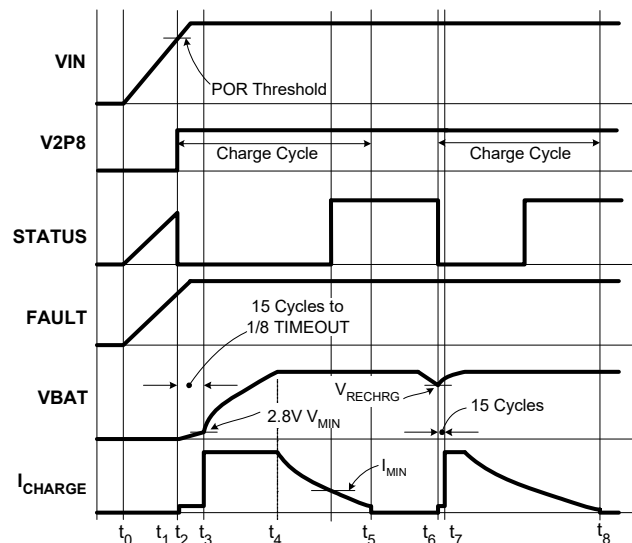

FIGURE 21. OPERATION WAVEFORMS
Figure 21 illustrates the typical signal waveforms for the linear charger from the power-up to a recharge cycle. More detailed Applications Information is given in the following.
The two indication pins, STATUS and FAULT, indicate a LOW and a HIGH logic signal respectively. Figure 21 illustrates the start-up of the charger between  $t_0$  to  $t_2$ .
A charge cycle consists of three charge modes: trickle mode, constant current (CC) mode, and constant voltage (CV) mode. The charge cycle always starts with the trickle mode until the battery voltage stays above  $V_{MIN}$  (2.8V typical) for 15 consecutive cycles of the internal oscillator. If the battery voltage drops below  $V_{MIN}$  during the 15 cycles, the 15-cycle counter is reset and the charger stays in the trickle mode. The charger moves to the CC mode after verifying the battery voltage. As the battery-pack terminal voltage rises to the final charge voltage  $V_{CH}$ , the CV mode begins. The terminal voltage is regulated at the constant  $V_{CH}$  in the CV mode and the charge current is expected to decline. After the charge current drops below  $I_{MIN}$  (programmable for the 4x4 and 5x5 package and programmed to 1/10 of  $I_{REF}$  for the 3x3 package; see "End-of-Charge (EOC) Current" on page 14 for more detail), the ISL6292 indicates the end-of-charge (EOC) with the STATUS pin. The charging actually does not terminate until the internal timer completes its length of TIMEOUT in order to bring the battery to its full capacity. Signals in a charge cycle are illustrated in Figure 21 between points  $t_2$  to  $t_5$ .
After a charge cycle completes, charging is prohibited until the battery voltage drops to a recharge threshold,  $V_{RECHRG}$  (see “Electrical Specifications” on page 6). Then a new charge cycle starts at point  $t_6$  and ends at point  $t_8$ , as shown in Figure 21. The safety timer is reset at  $t_6$ .
The trickle mode charge has a time limit of 1/8 TIMEOUT. If the battery voltage does not reach  $V_{MIN}$  within this limit, a TIMEOUT fault is issued and the charger latches up. The charger stays in trickle mode for at least 15 cycles of the internal oscillator and, at most, 1/8 of TIMEOUT, as shown in Figure 21.
The end-of-charge current  $I_{MIN}$  sets the level at which the charger starts to indicate the end of the charge with the STATUS pin, as shown in Figure 21. The charger actually does not terminate charging until the end of the TIMEOUT, as described in “Total Charge Time” on page 13. The  $I_{MIN}$  is set in two ways, by connecting a resistor between the IMIN pin and ground, or by connecting the IMIN pin to the V2P8 pin. When programming with the resistor, the  $I_{MIN}$  is set in Equation 6.